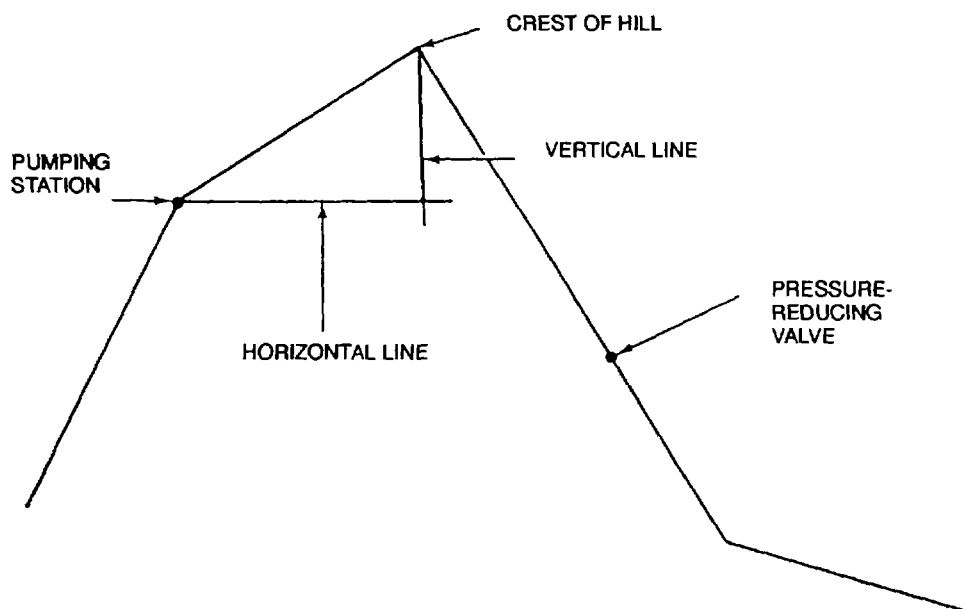

Figure 2-5. Pressure- Reducing Valve Location
- I. Pressure-Reducing Valve Location. To determine the location of the pressure-reducing valve (Figure 2-5), refer to the ground profile and proceed as follows: